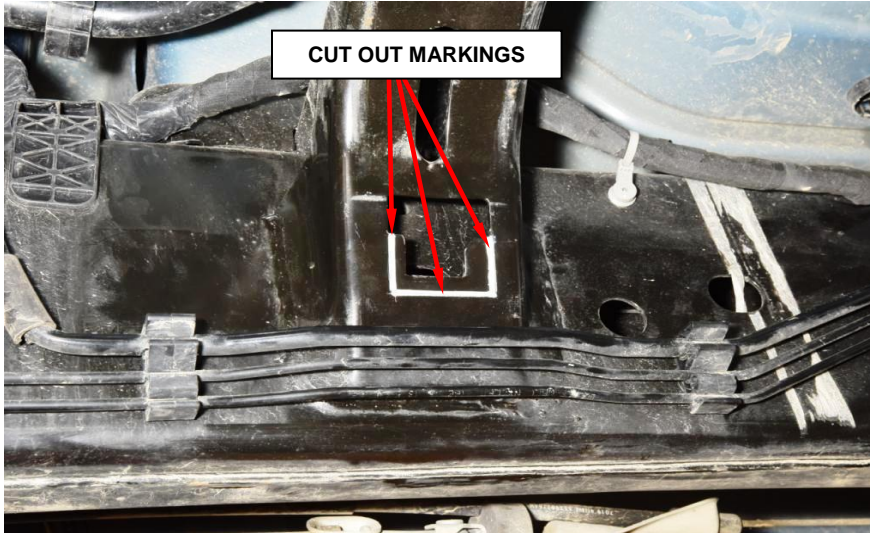

Figure 15 - Marking
40. Highlight the cut out markings as shown (Figure 15).